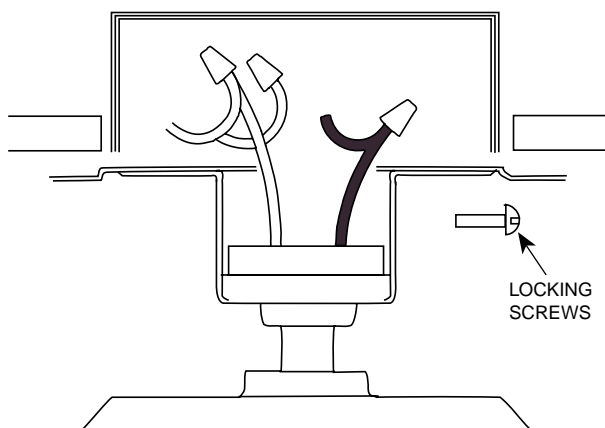

FIGURE 9
- A. Connect electrical supply leads to the leads from motor, using approved connectors. See Figure 9.
- A. Using two 8-32 by approximately 5/8" long screws from sack parts, thread the plastic hanger locking screws into the bak of the hanger bracket. See Figure 9. The screws should be driven all the way into the bracket and tightened. The screws are located just above the plastic hanger and prevent the motor from twisting when the blades are assembled